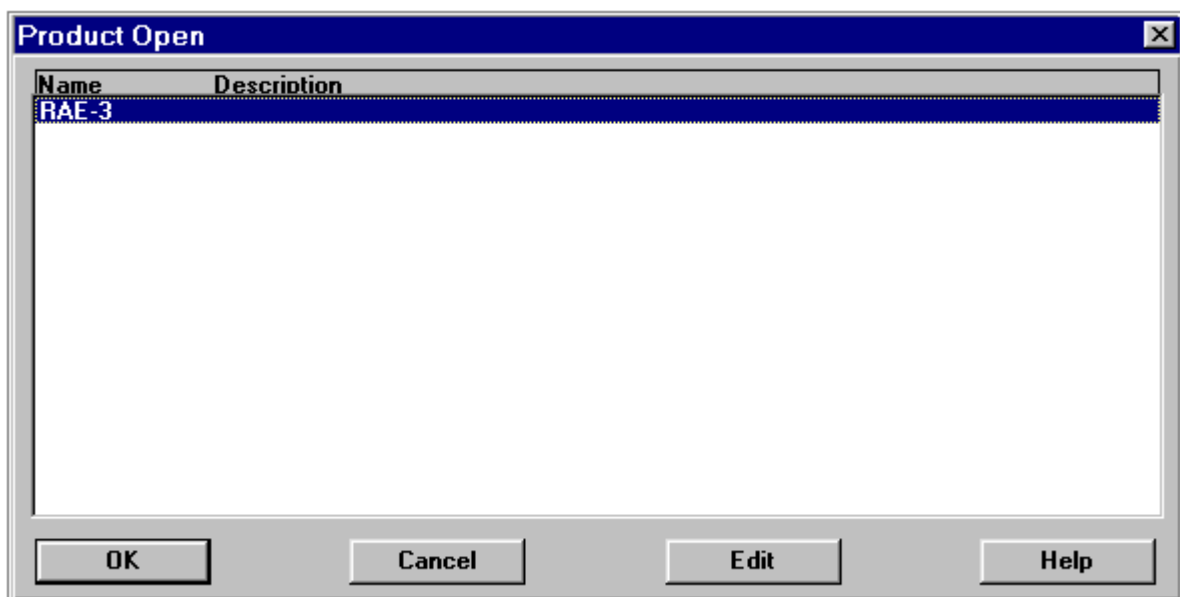

Figure 6. Product Open
4. Select *Product -> Open -> RAE-3* for N9290 (see Figure 6)